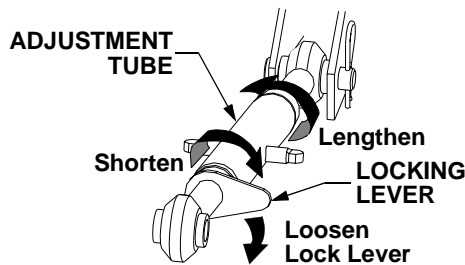

Figure 27
- The length of the upper hitch link is normally determined by the design of each implement. To adjust the upper hitch link, loosen the locking lever and turn the adjustment tube as shown in Figure 27. After the appropriate length is attained, tighten the locking lever. If correctly adjusted, the upper hitch link will be parallel or nearly parallel to the lower hitch links.